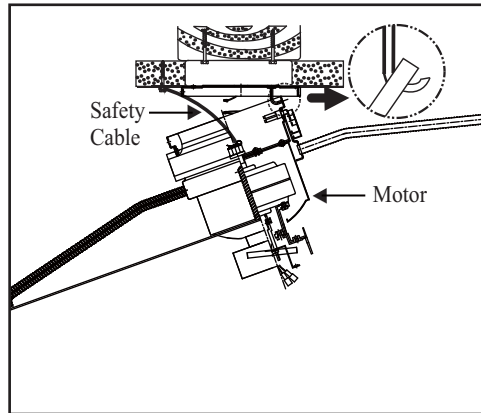

Figure 6
3. Lift fan into position by hanging the motor assembly onto the hook from the ceiling mounting bracket allowing it to hang freely (Fig. 6).
4. Secure the safety cable to the building structure with a wood screw. (wood screw not supplied) (Fig. 6)